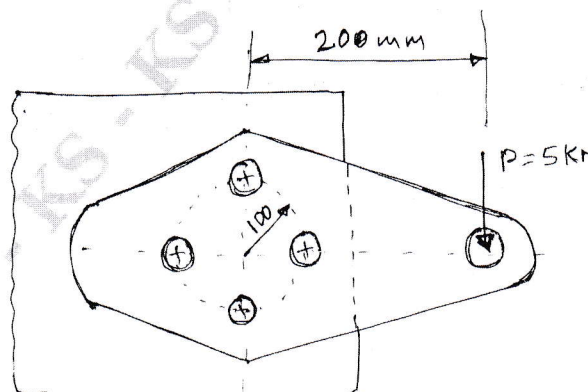

Fig.Q7(b)
b. A riveted joint is consisting of four identical rivets is subjected to an eccentric force of 5kN as shown in Fig.Q7(b). Determine the diameter of rivets, if the permissible shear stress is 60MPa.